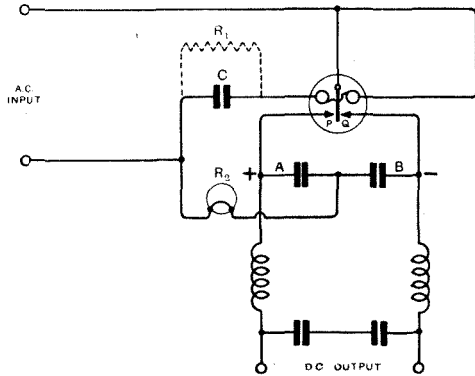
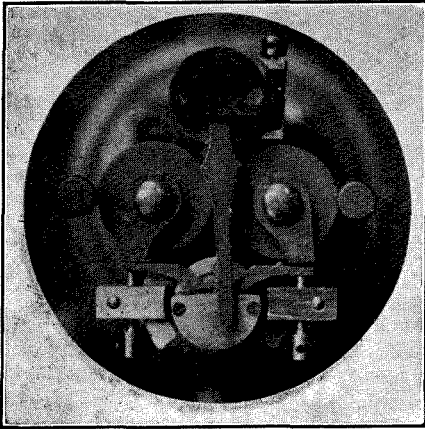
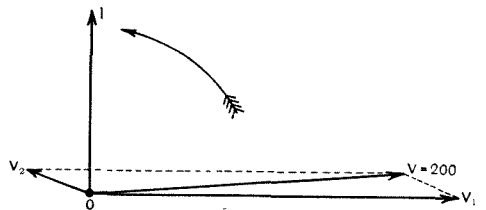

Fig. 3. Connections of full wave vibrator rectifier, employing a polarised relay.
Fig. 4. The movement of a Post Office pattern relay used in the construction of the rectifier.
Fig. 5. Vector diagram showing the voltage displacement.
The diagram of connections is shown in Fig. 3. The chief part of the rectifier, namely, the polarised vibrator and energising coils, consists of an ordinary Post Office recording relay, the one actually used being of the rocking armature type, as shown in Fig. 4, but no doubt any type of high speed recording relay would work equally well provided the insulation is sufficiently good to stand the high voltages. The coils, which each had a resistance of 500 ohms, were connected in series and supplied with A.C., which caused the armature to vibrate against the contacts at the same frequency as that of the supply.
If one complete cycle or wave represents 360 electrical degrees, then, in any coil possessing resistance R and inductance L , the current wave will lag behind the impressed E.M.F. wave by an angle ϕ electrical degrees, where $\tan \phi = 2\pi f L/R$, f being the frequency. Thus if the relay coils were connected directly to the supply the contacts would be made, not near the peaks of the E.M.F. waves as required, but a considerable fraction of a period later, this fraction being $\phi/360$, on the assumption of no mechanical lag. Taking into account the mechanical lag, the instant of make would be still later. Thus a compensating device to correct the phase of the current must be employed and this usually consists of a condenser C (Fig. 3) shunted by a resistance R_1 and connected in series with the relay coils. When allowance is made for the mechanical lag, of the armature the current must be made to lead the supply voltage by a considerable angle, and since this varies for different relays, the correct values for C and R_1 must be found by trial. It must be borne in mind that this is a circuit partly
tuned to the supply frequency and will probably pass too heavy a current if the full mains voltage is applied to its ends. Adding resistance in series to limit the current will necessitate a re-adjustment of the capacity, so that on the whole this system is rather complicated. The writer found that the mechanical lag was so large that the current had to lead the voltage by nearly a quarter of a cycle and this was effected quite easily by connecting a small condenser of about 0.25 mfd. capacity in series with the relay coils instead of the shunted condenser shown in Fig. 3. This small capacity had the additional effect of limiting the current through the relay coils so that the full 200 volts could be applied without overheating or over-magnetising the relay. Fig. 5 shows the vector diagram for this arrangement, where V = the voltage of supply (200), V_1 = voltage across the condenser, V_2 = voltage across relay and I = current through relay.
We come now to consider the operation of the device. It will be noticed from Fig. 3 that the vibrating armature is connected directly to one of the supply mains and that the two contact stops, P and Q, are connected across two 3 microfarad condensers A and B in series. The other main is joined through a lamp R_2 to the mid-point between the two condensers. When the relay is excited the armature vibrates against the contacts P and Q at the same frequency as that of the supply. Suppose that each time